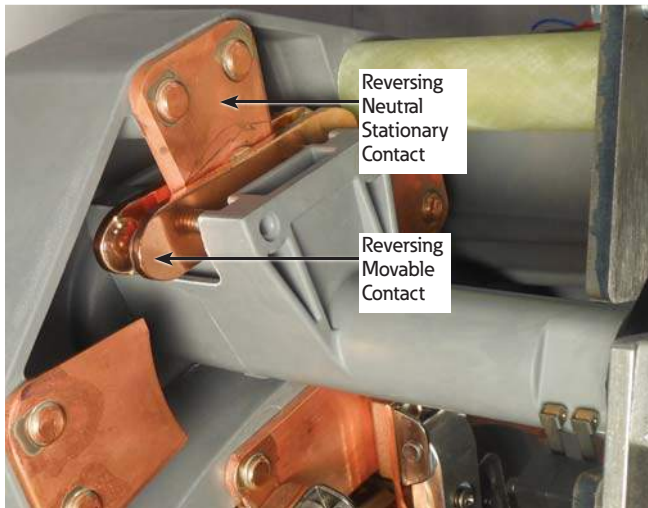

Figure 26. Neutral position for reversing movable
B. The reversing movable contact is located on the reversing neutral stationary contact. See Figure 26.